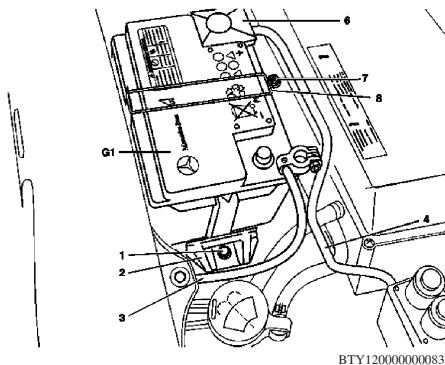

Fig. 1 Battery removal
3. Disconnect battery ground cable (3), Fig. 1. Connect quiescent current retention unit if required.
4. Remove nut (7) and remove strap (8), Fig. 1.
5. Disconnect positive cable (4), Fig. 1.
3. Install strap (8), Fig. 1.